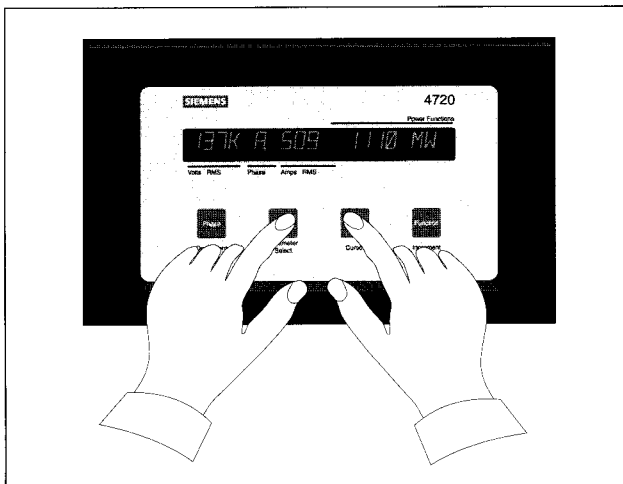

Figure 6.1 Entering Programming Mode
To program the setup parameters of the 4720 power meter from the front panel, you must first enter programming mode. To enter programming mode, press the two Menu buttons at the same time (see **Figure 6.1**). When programming mode is first entered, "PROGRAMMING MODE" is displayed.
1. Enter programming mode by pressing and holding simultaneously the Menu 1 and Menu 2 buttons (see **Figure 6.1**).